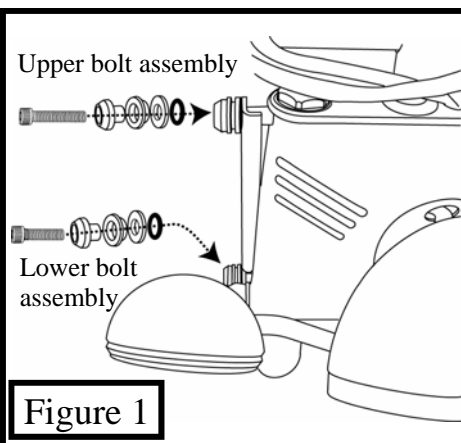

Figure 1
2. Remove the two original upper Light Bar bolts located on the sides of the forks, also temporarily remove the steel spacers behind the Light Bar frame. Replace the bolts with the new longer upper mount bushing assemblies (use the 1-3/4" long bolt assemblies—Note 1-1/2" long bolts are included for some applications) and re-install the original steel spacers behind the Light Bar frame. (See figure 1)
3. Remove the two lower Light Bar mounting bolts located on both sides of the forks. Install the new lower bolt bushing assembly. (See figure 1) Repeat step 2 and 3 on the opposite side.